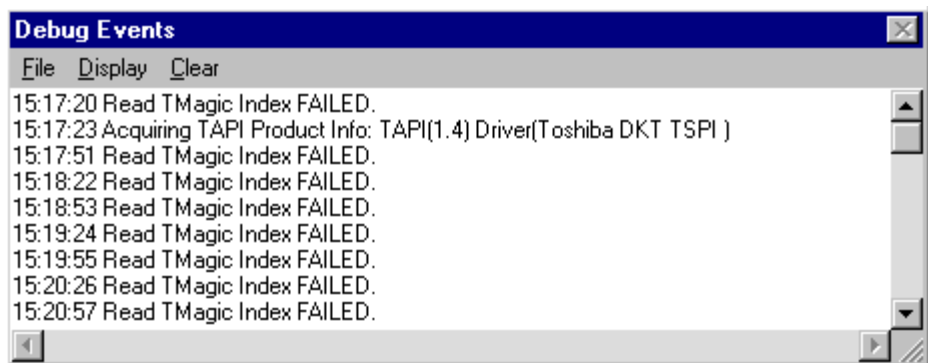

Figure 13-12 Debug Events Screen Telephone System Events
- ◆ Show Events opens a Debug Events screen which shows real-time events as they occur (see Figure 13-12). The Display option enables you to choose which event you will monitor.